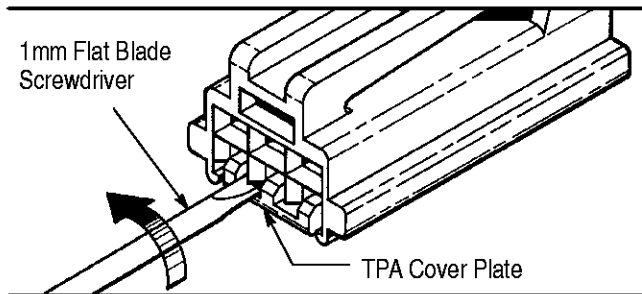

Figure 4
1. Insert a 1 mm flat-blade screwdriver between the TPA cover plate and the mating face of the connector as shown in Figure 4.